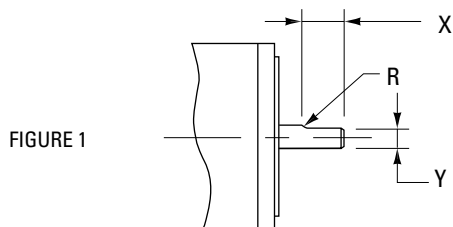

FIGURE 1
-- **Flat** See Fig. 1 (standard option) (special)